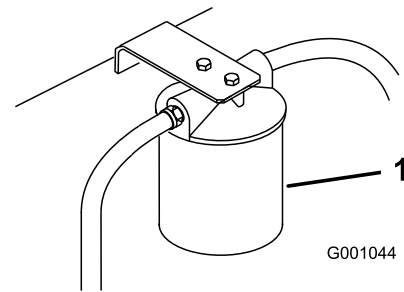

Figure 95
- Place drain pan under filter, remove the old filter and wipe the filter adapter gasket surface clean (Figure 95).